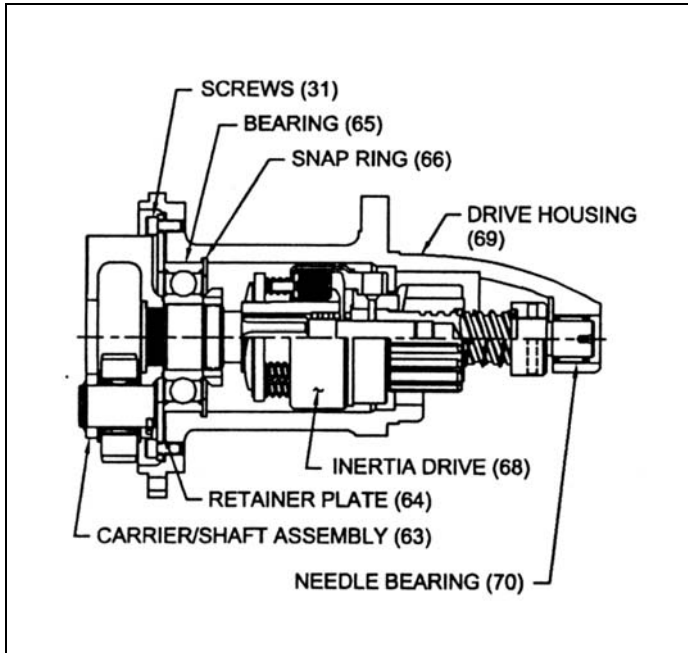

*Figure 9. Bendix Drive Removal*
Remove set screw using a flat head screwdriver, *Figure 9* and pull the bendix assembly from the starter carrier shaft. Remove spring (52). This spring fits loosely between the bendix assembly and carrier
Remove set screw using a flat head screwdriver, *Figure 9*, and pull the bendix assembly from the starter carrier shaft.